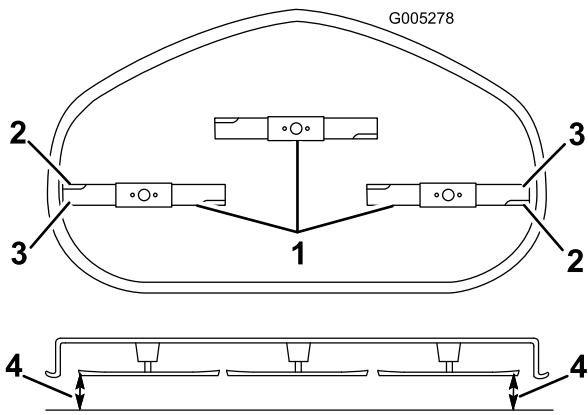

Figure 39
5. Carefully rotate the blade(s) side to side (Figure 39). Measure between the outside cutting edges and the flat surface (Figure 39). If both measurements are not within 3/16 inch (5 mm), an adjustment is required; continue with this procedure.
6. Measure between the outside cutting edges and the flat surface (Figure 39). If both measurements are not within 3/16 inch (5 mm), an adjustment is required; continue with this procedure.